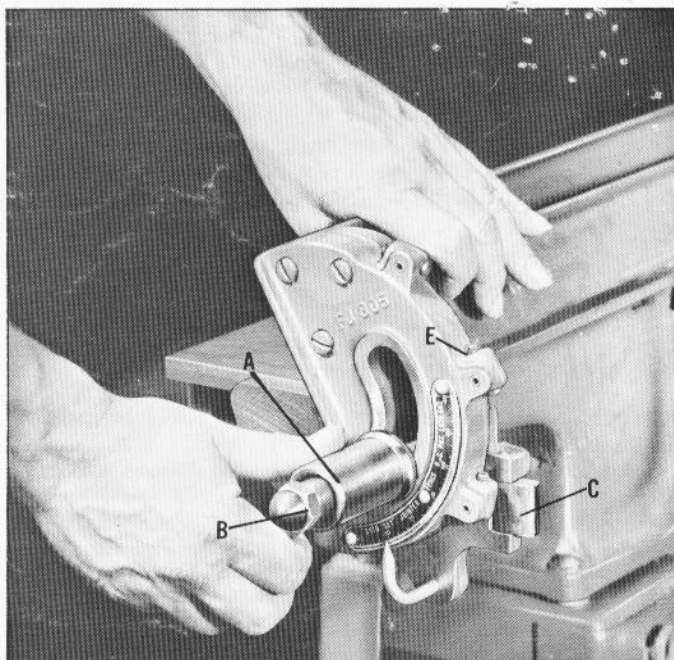

Fig. 23
To move the fence across the table, pull the fence adjusting handle away from the machine until the handle body (A) Fig. 23, engages the acorn nut (B). Loosen the nut, move the fence to the desired position, and retighten nut.
To tilt fence move the fence adjusting handle in towards the machine, as shown in Fig. 23, to engage the nut. Loosen nut and tilt the fence to the desired angle right or left, and retighten nut. When tilting fence to the right, stop block (C), Fig. 23, must be moved out of the way.